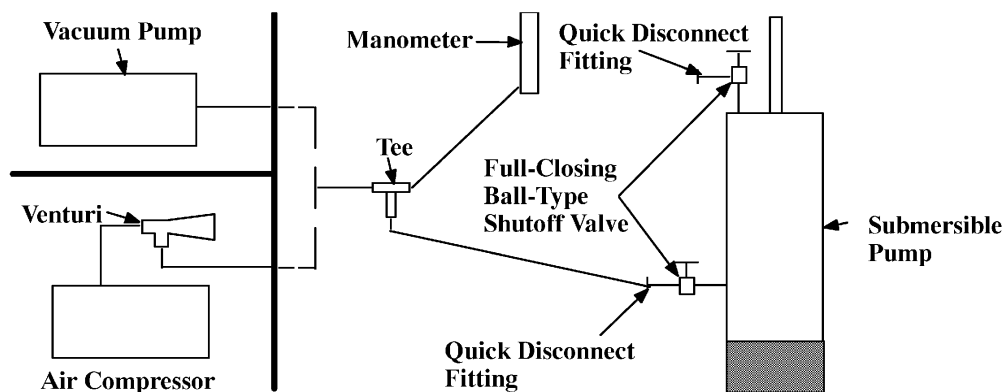

Figure C-7. Vacuum Test System
It is recommended that a vacuum pump be used to draw the vacuum on the cavities. If a vacuum pump is not available, a compressor/venturi system may be used, see Figure C-7.
See Figure C-7 and connect the vacuum pump or compressor/venturi system directly to the pump at the hole for the seal cavity drain plug (8).
Connect the vacuum pump or compressor/venturi system to the pump as shown in Figure C-7.